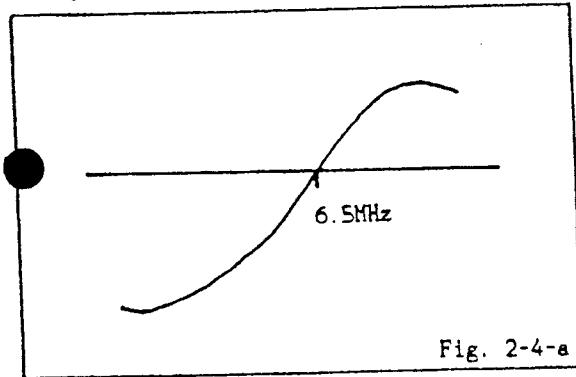

Fig. 2-4-a
4. Adjust L6101 until the waveform marker (6.5MHz) will become as shown in Fig. 2-4-a.